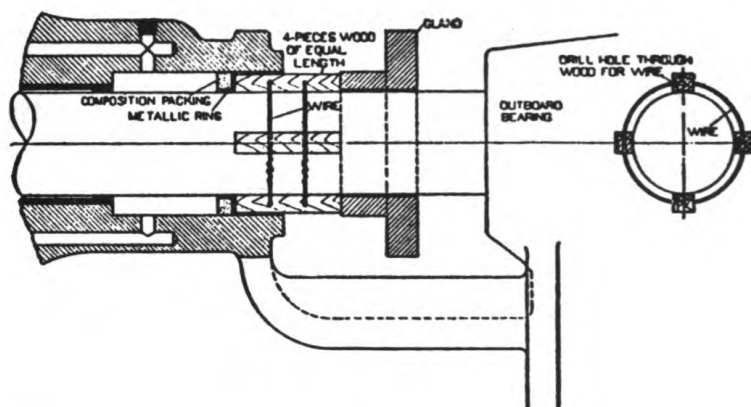

FIG. 28
- (e) Start the assembled ring into the stuffing box by hand. Then in order to be sure that the assembled ring will be seated in place without becoming disarranged in the slightest degree and that the metallic ring will not be damaged by bending out of position, use four short pieces of wood of equal length fastened around the shaft as shown in Fig. 28. The gland should be used to push the ring in with the sticks to seat it firmly in place. The same sticks may be used for several sizes of compressors.